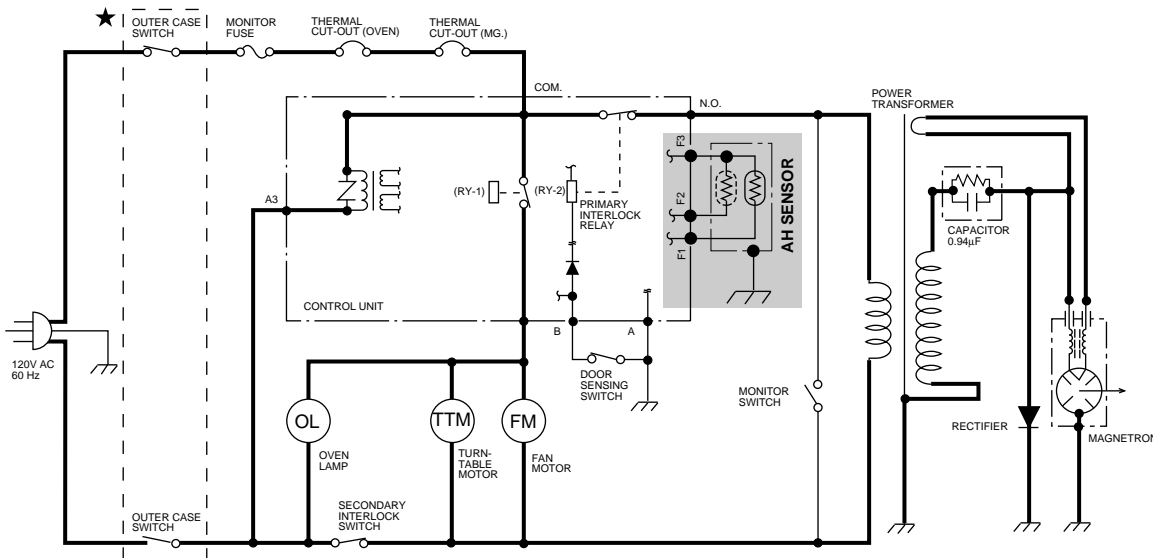

Figure O-2. Oven Schematic-Cooking Condition
- The contacts of relays are closed and components connected to the relays are turned on as follows. (For details, refer to Figure O-2)